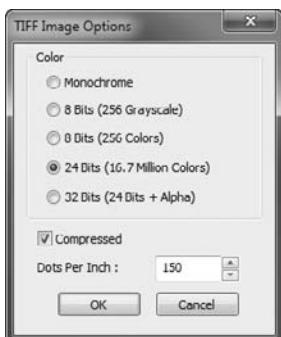

FIGURE 17.34 The TIFF Image Options dialog box
- 4.** Depending on the file type you choose in the future, an Options dialog box, similar to the one shown in Figure 17.34, will appear. In the TIFF Image Options dialog box, select 24 Bits (16.7 Million Colors), make sure the Compressed option is checked and then click OK.